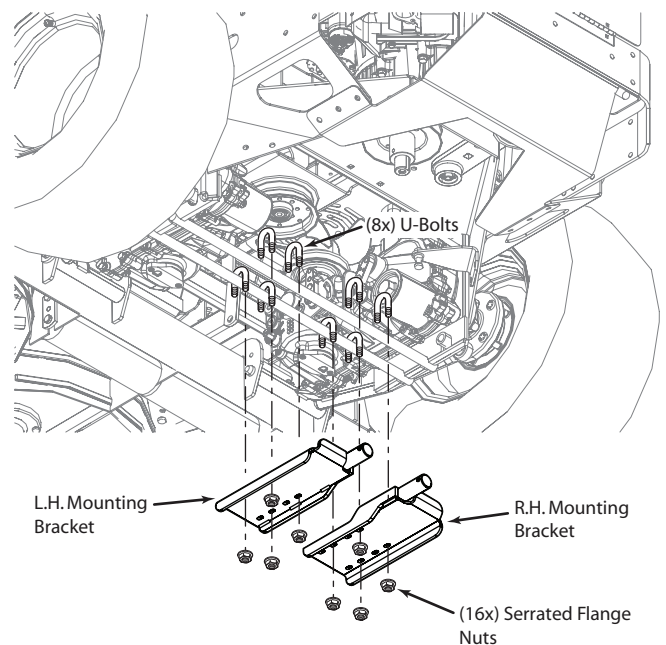

Figure 2-11. Mounting Bracket Install
2. Attach the mounting brackets to the double cross bar between the hydraulic axle mounting plates using (8) u-bolts and (16) serrated flange nuts. See Figure 2-11. Do not tighten the hardware.